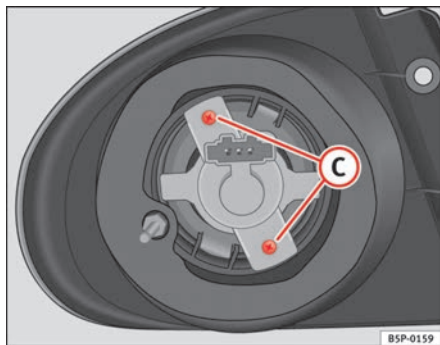

Fig. 186 Indicator light
- Unscrew the bolts ⇒ page 258, fig. 186 **C** from the lamp holder and pull on this.
- Unscrew the bolts ⇒ fig. 186 C from the lamp holder and pull on this.